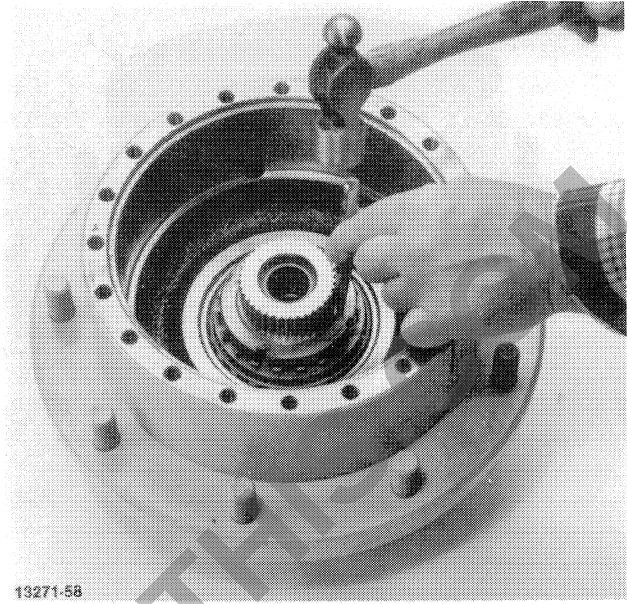

FIGURE 21B-69
9. Apply Loctite 277 to the second screw thread from the bottom of a new spanner nut, A, Figure 21B-67, and install it on the spindle hand tight.